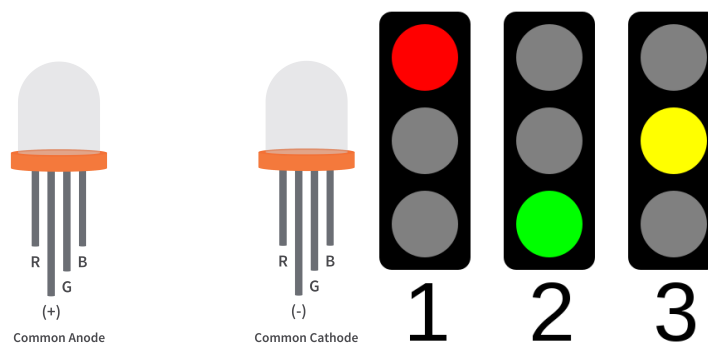

Figure 8: Sequence for RGB LED
- b You will use the following duty cycles for the RGB channel of LED from Fig. 8: